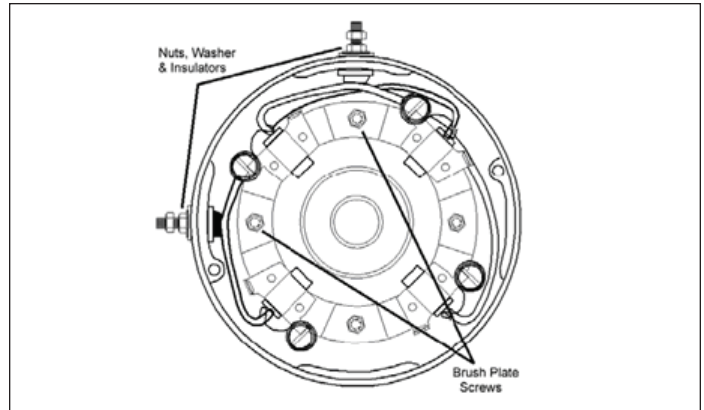

Figure 10-8. Brush Box and Brushes
7. Remove 4 brush plate screws (Figure 10-8). Push brush terminal studs through, into the center of the head as the brush box, brushes and terminal assemblies are removed. (See also exploded view Figure 10-10).